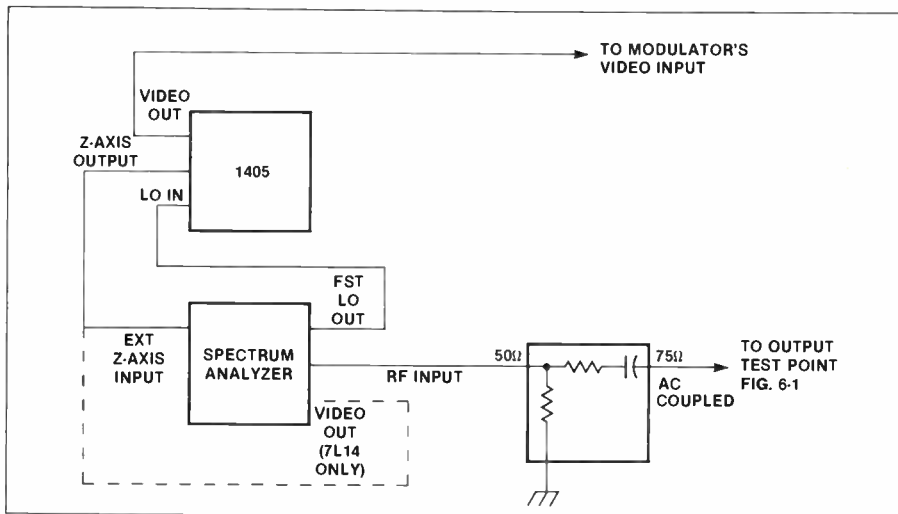

Figure 7-7 Equipment connection for testing modulators using 1405
1. Connect the test set up shown in figure 7-7.